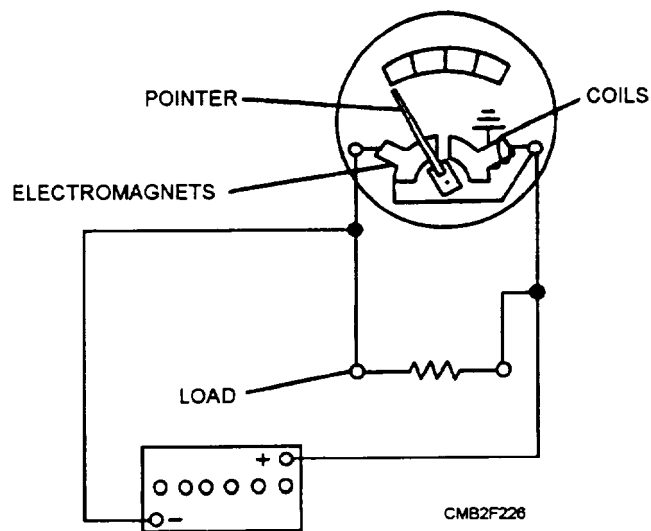

Figure 2-74.—Voltmeter schematic.
- The **VOLTMETER** (fig. 2-74) provides a more accurate indication of the condition of the electrical